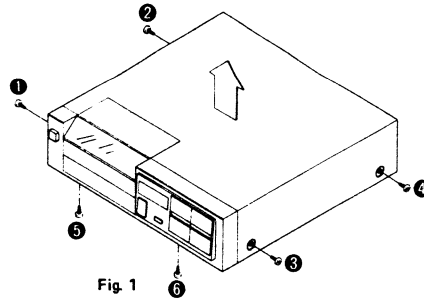

Fig. 1
1. Remove the 4 setscrews [Fig. 1 : ① ~ ④] to remove the cabinet in the direction of the arrow.
2. Remove the 2 setscrews [Fig. 1 : ⑤, ⑥] of the front panel.